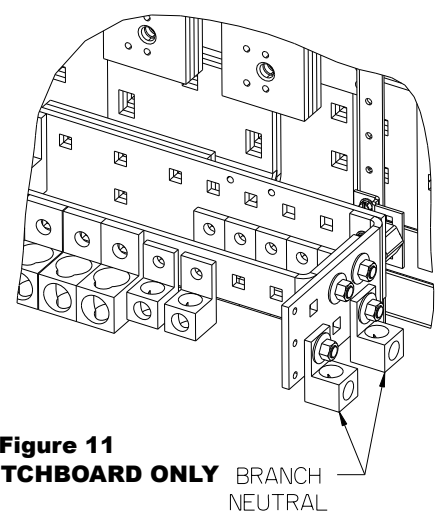

Figure 11
12. Reference fig. 11 - Installing the Branch neutral lug (item 21) in a Switchboard. The branch Neutral is located at the bottom of the "Z-rails", or mirrored at the top depending upon the feed cable location. Two (2) different Neutral lug assemblies are included in the kit, be sure to install the type pictured below. The Neutral lug assemblies can be mounted, as shown, on any available hole of the Branch neutral depending on the cable feed location. Torque all hardware as specified on the rear of the deadfront.